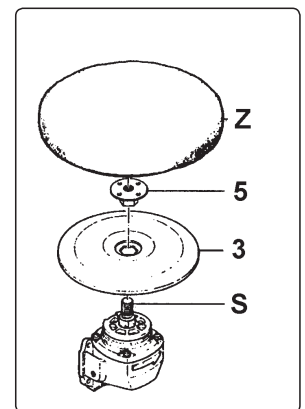

fig.3
4.1.3. To fit a polishing bonnet, fig.3: